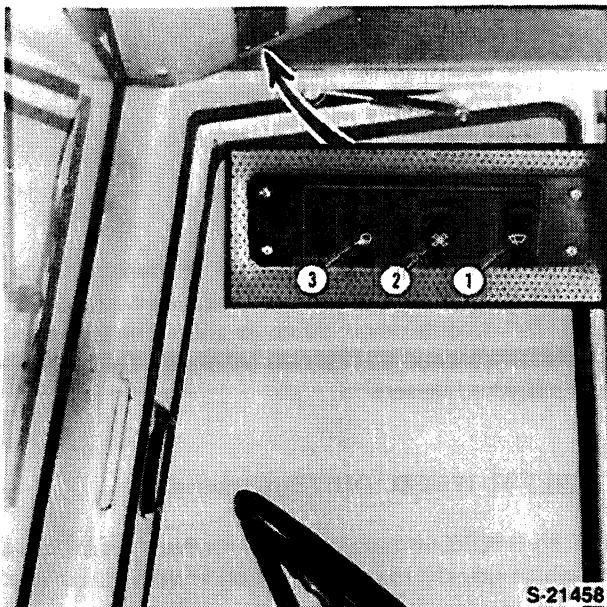
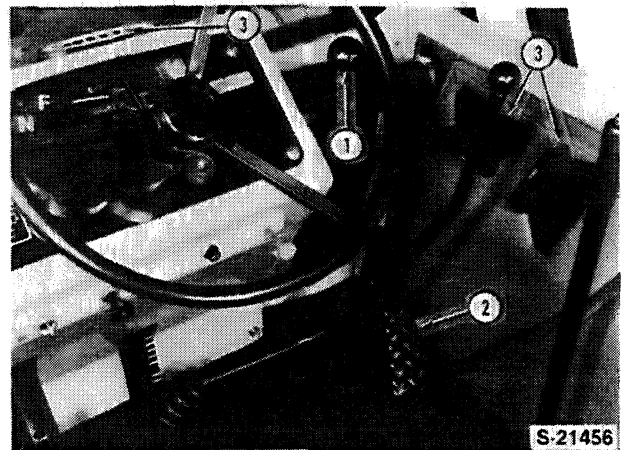
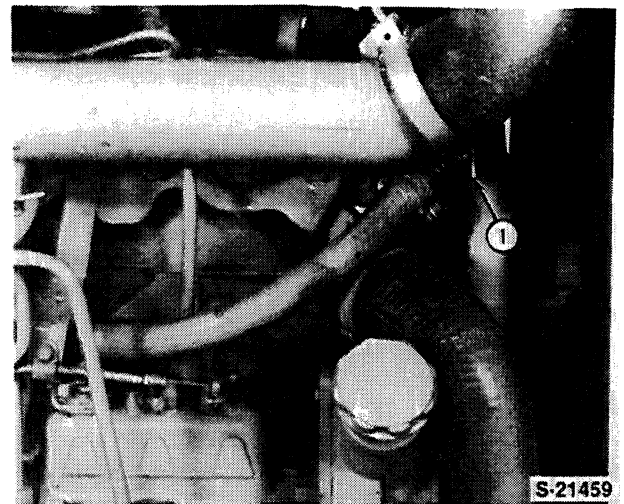
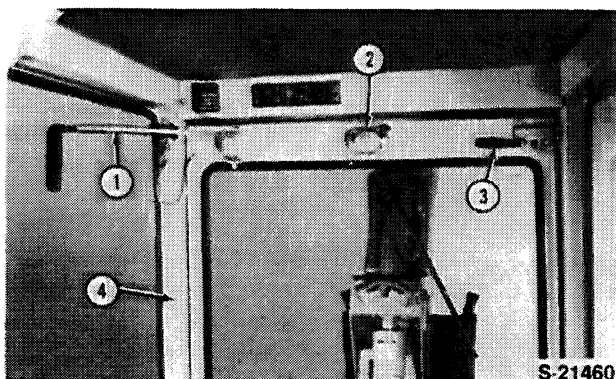

Figure 5
Figure 6
Figure 7
Figure 8
The rocker switch (2), Figure 5, operates the single speed heater blower motor. Distribution of air to the windshield and cab is controlled by a tube (windshield) and vents (3), Figure 6, on the heater unit located on the right side front panel of the cab. Hot air may only be obtained from the heater when the shut-off valve (1), Figure 7, is open. To reduce the air temperature from the heater close the vents or close the shut-off valve part way.
The rocker switch (1), Figure 5, operates the front two speed self parking windshield wiper. The rear window wiper switch is located on the single speed wiper motor (2), Figure 8.
The rocker switch (3), Figure 5, operates the rear work lights.